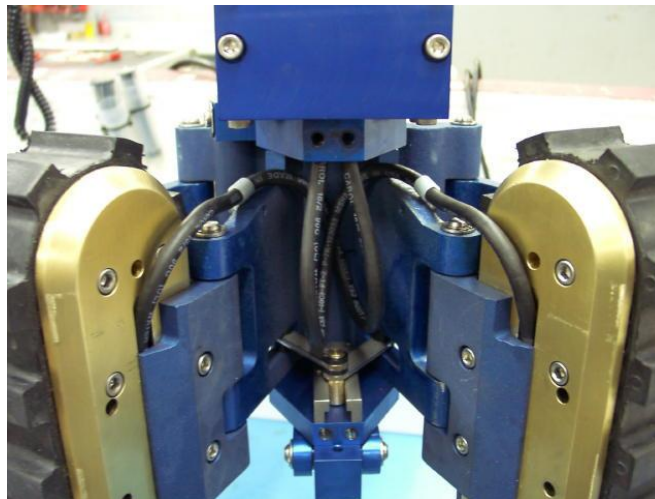
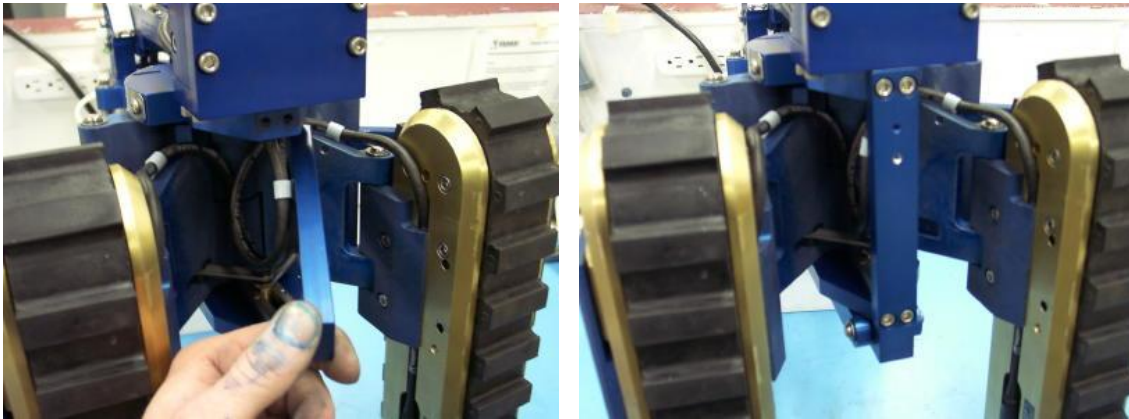

FIGURE 19: TRACKS PLUGGED IN
FIGURE 20: WIRE CONSTRAINTS
4. Install the track connectors onto the tracks. Lay the connector cable into the slot in the Minitrac™ side plate and swing the inside link overtop as shown in Figure 19. Bolt these down using ¼-20 x 1¼ inch socket cap screws.
Note also in Figure 19 that there are two white plastic clips holding the connector whips to the frame. These always remain on to maintain proper whip routing. If they are missing, they must be replaced. In addition, Figure 20 below shows an interior wire constraint which must be present to confine the wiring harness.